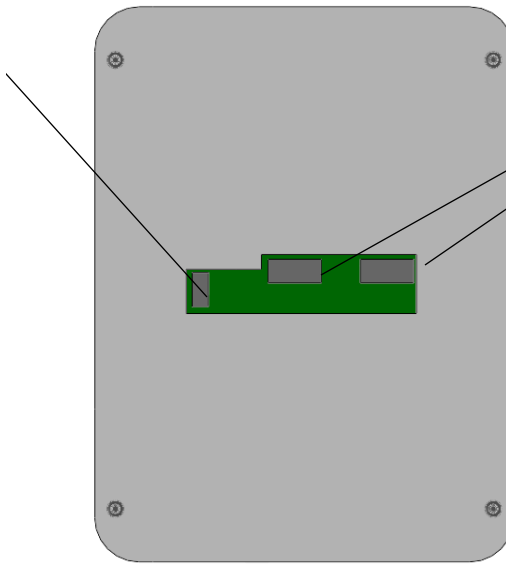

Fig. 1 Module 1-1: Control Module
- B. Unless you need to replace the lithium battery, never take it out of the Control Module (see Fig. 1)